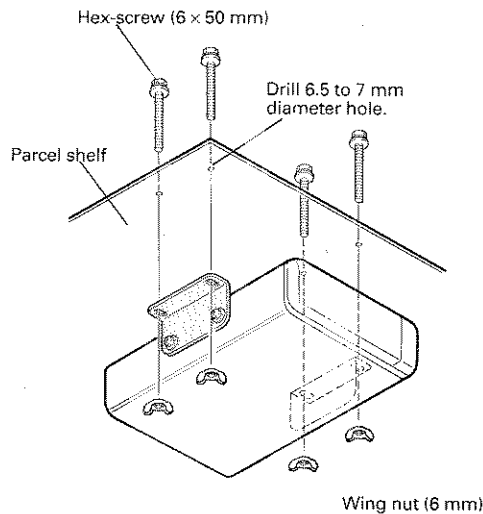

Fig. 9
3. Pass hex-screws (6×50 mm) through the holes from the passenger compartment side, fit them to the screw holes of the mounting bracket, and install with the wing nuts. (Fig. 9)